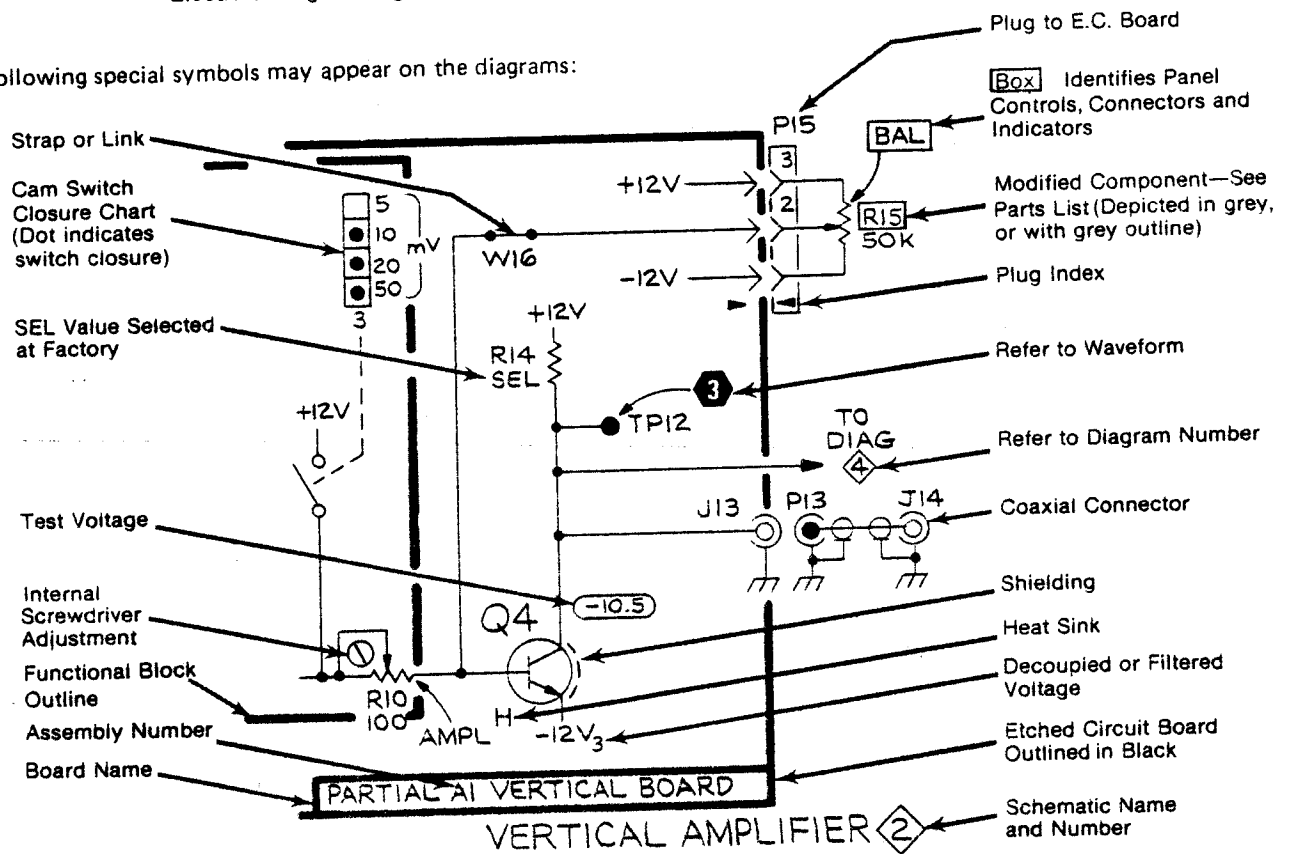

Figure 6-1. Schematic symbols.
(3) An explanation of the symbols used on the diagrams is shown in Figure 6-1.